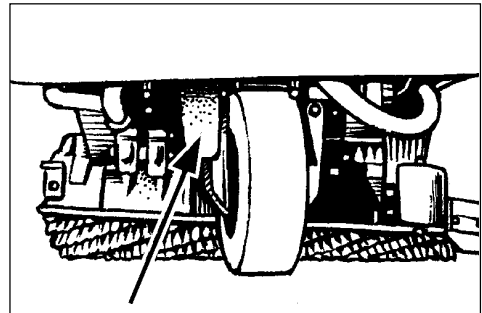

Figure 49
NOTE: The solution tank does not have a drain hose. It is drained through the filter body located in the front and underneath the machine (see figure 49).
4. Unscrew the filter housing by turning it counter-clockwise (see figure 49). Remove the filter screen from the housing and clean it carefully.